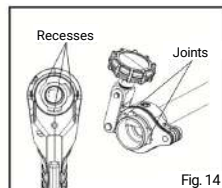

Fig. 14
(2) Flaring
- ① Attach the clamp (in which the tube has been placed) to the main unit. (Fig.14)